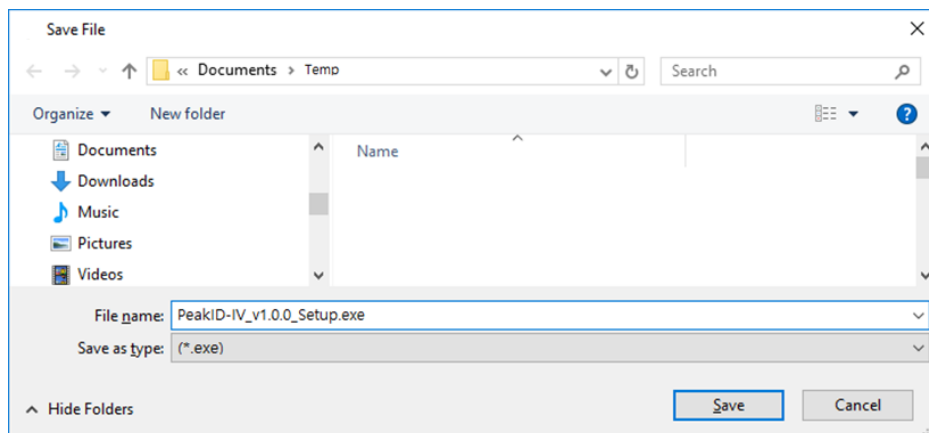

Figure 7.1.3. Save PeakID Installer
3. Save the PeakID IV Installer on the PC (Figure 7.1.3).